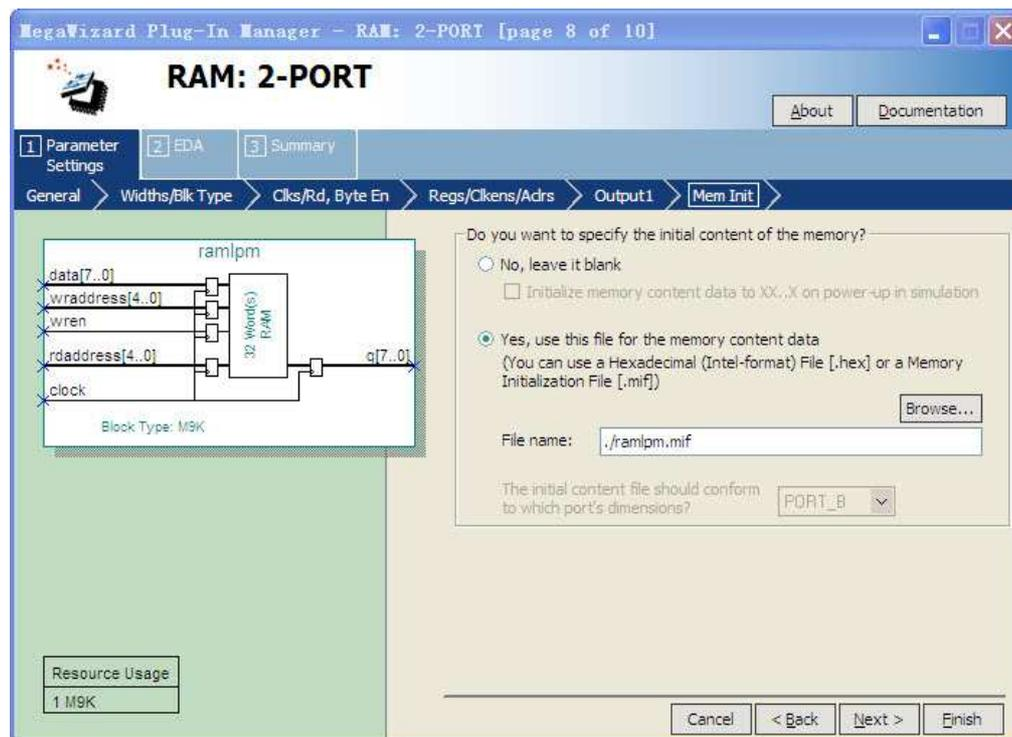

Figure 5. Specifying a memory initialization file (MIF).
1. Create a new Quartus II project for your circuit. To generate the desired memory module open the Mega-Wizard Plug-in Manager and select again the RAM:2-PORT LPM in the storage category. On Page 1 of the Wizard choose the setting With one read port and one write port (simple dual-port mode) in the category called How will you be using the dual port ram?. Advance through Pages 2 to 5 and make the same choices as in Part II. On Page 6 choose the setting I don't care in the category Mixed Port Read-During-Write for Single Input Clock RAM. This setting specifies that it does not matter whether the memory outputs the new data being written, or the old data previously stored, in the case that the write and read addresses are the same. Page 8 of the Wizard is displayed in Figure 5. It makes use of a feature that allows the memory module to be loaded with initial data when the circuit is programmed into the FPGA chip. As shown in the figure, choose the setting Yes, use this file for the memory content data, and specify the filename ramlpm.mif. To learn about the format of a memory initialization file (MIF), see the Quartus II Help. You will need to create this file and specify some data values to be stored in the memory. Finish the Wizard and then examine the generated memory module in the file ramlpm.vhd.